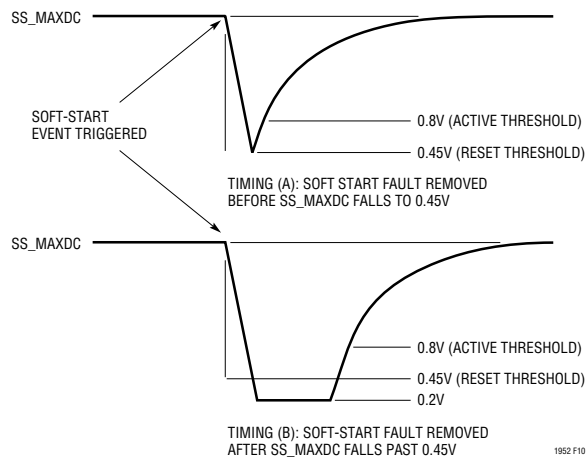

Figure 10. Soft-Start Timing
The LT1952 has built-in soft-start capability to provide low stress controlled startup from a list of fault conditions that can occur in the application (see Figure 1 and Figure 10). The LT1952 provides true PWM soft-start by using the SS_MAXDC pin to control soft-start timing. The proportional relationship between SS_MAXDC voltage and switch maximum duty cycle clamp allows the SS_MAXDC pin to slowly ramp output voltage by ramping the maximum switch duty cycle clamp — until switch duty cycle clamp seamlessly meets the natural duty cycle of the converter.
It can be seen in Figure 10 that two types of discharge can occur for the SS_MAXDC pin. In timing (A) the fault that caused the soft-start event has been removed before SS_MAXDC falls to 0.45V. This means the soft-start latch will be reset when SS_MAXDC falls to 0.45V and SS_MAXDC will begin charging. In timing (B), the fault that caused the soft-start event is not removed until some time after SS_MAXDC has fallen past 0.45V. The SS_MAXDC pin continues to discharge to 0.2V and remains low until all faults are removed.